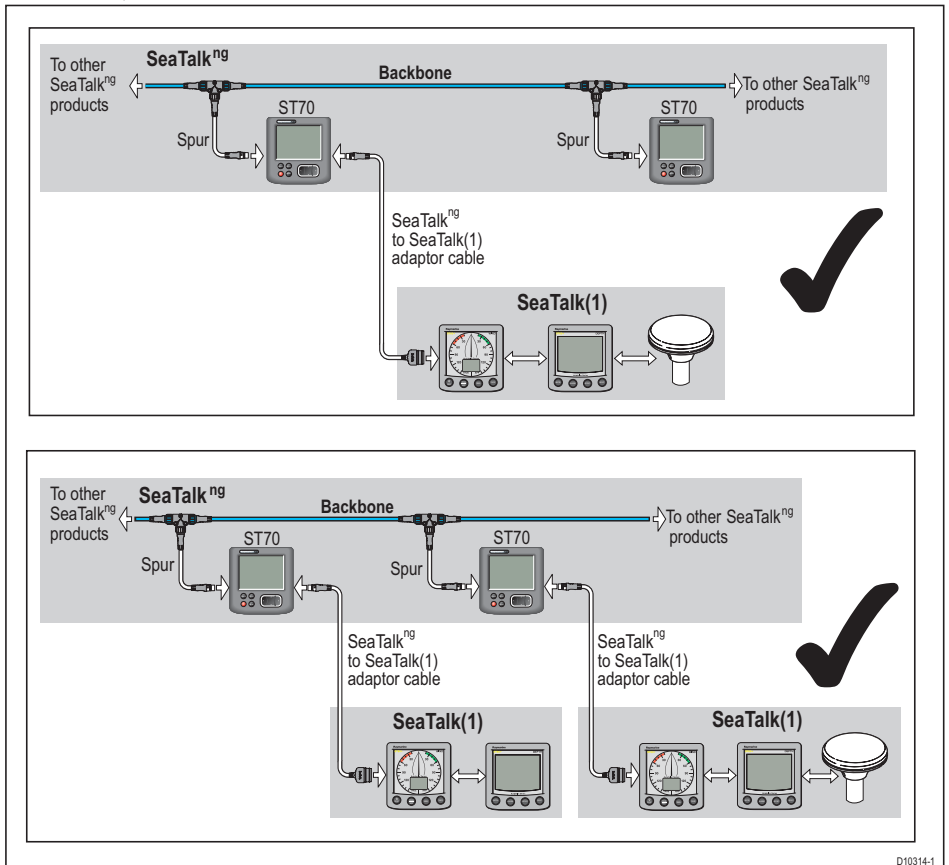
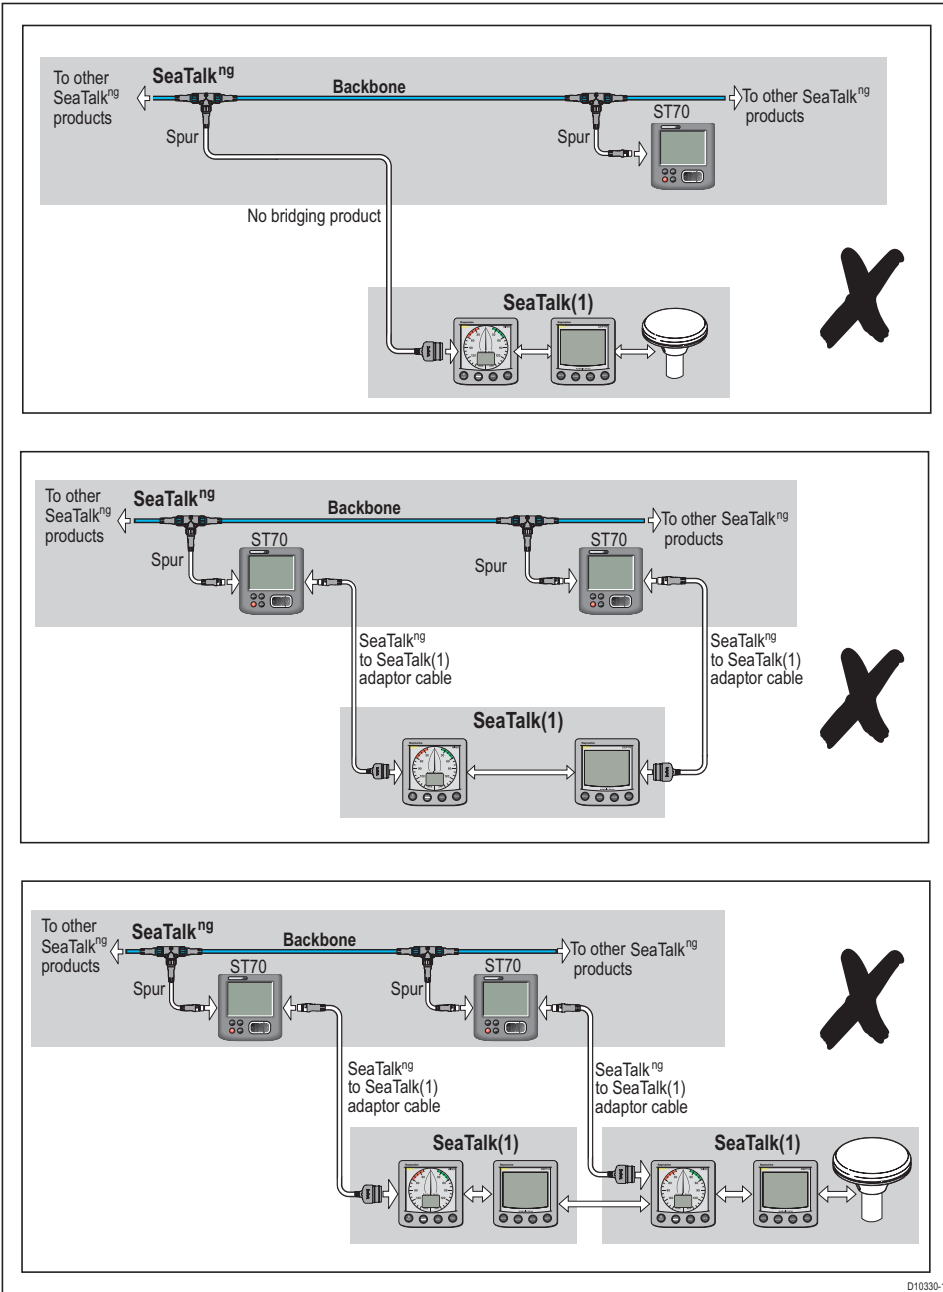

Figure 1-3 SeaTalk^{ng}/SeaTalk(1) acceptable scenarios
Figure 1-4 SeaTalk^{ng}/SeaTalk(1) unacceptable scenarios
- You can connect a single SeaTalk(1) network to SeaTalk^{ng} using an adaptor cable and one bridging product (e.g. ST70 instrument).
- You can connect two separate SeaTalk(1) networks to SeaTalk^{ng} using different adaptor cables and bridging products (e.g. ST70 instruments), but the two SeaTalk(1) networks must NOT be connected together.
Summaries of acceptable and unacceptable SeaTalk^{ng}/SeaTalk(1) scenarios are shown in *Figure 1-3* and *Figure 1-4* respectively.